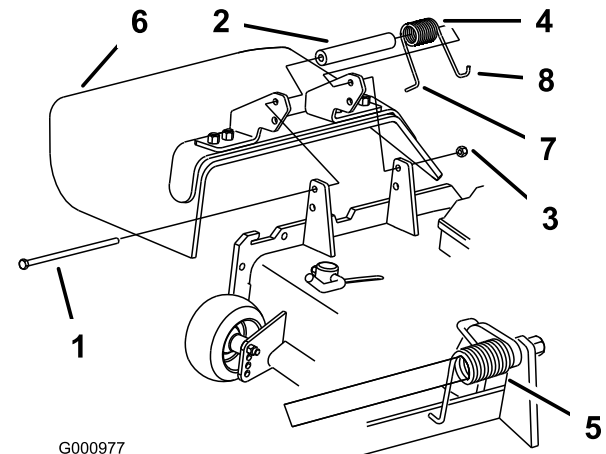

Figure 99
1. Remove the locknut, bolt, spring and spacer holding the deflector to the pivot brackets (Figure 99). Remove the damaged or worn grass deflector.
Note: Make sure the **L** end of the spring is installed behind the deck edge before installing the bolt as shown in Figure 99.
3. Install the bolt and nut. Place the **J** hook end of the spring around the grass deflector (Figure 99).